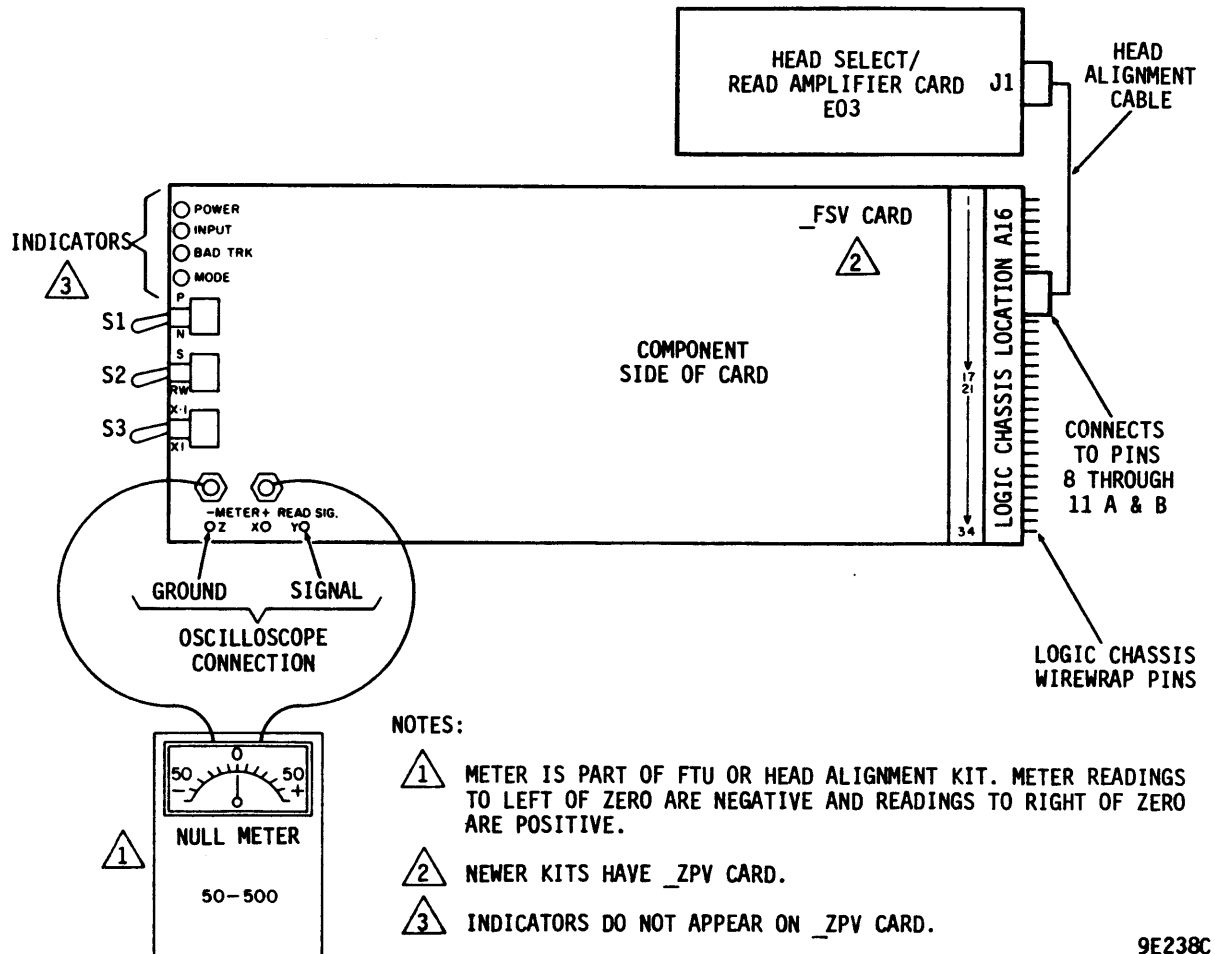

Figure 2-1. Head Alignment Kit
The head alignment kit is used whenever the heads are aligned by the use of test software. The kit consists of a null meter which gives a visual indication of head alignment, a card which processes alignment information from the heads so it can be used by the meter, and a cable which carries alignment information from the heads to the card. Each of these are shown in figure 2-1 and explained in the following paragraphs.
The head alignment card included in the kit is either the _FSV card or the _ZPV card. The only difference between the cards is that the _ZPV card does not have the four indicators found on the _FSV card (see figure 2-1).
The following toggle switches control the cards operation (refer to figure 2-1).
10. If head alignment is being performed, proceed as follows (refer to figure 2-1):